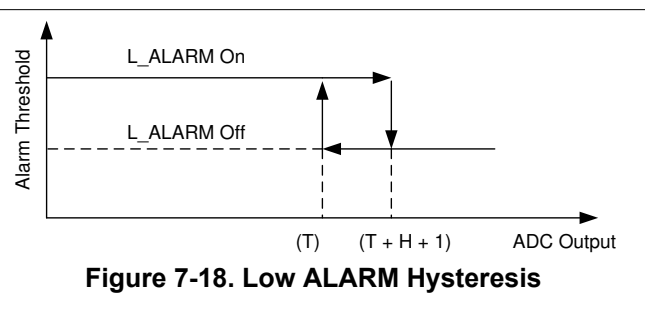

Figure 7-18. Low ALARM Hysteresis
Similarly, the input low alarm is triggered when the digital output falls below the low alarm lower limit [low alarm threshold (T)]. The alarm resets when the digital output is greater than or equal to the low alarm higher limit [low alarm (T) + H + 1]. This function is shown in Figure 7-18.